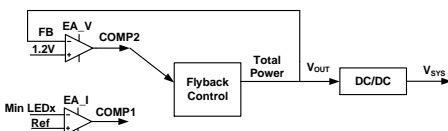

Figure 3: MP4658 Control Scheme when PWM Dimming Is Off
When PWM dimming is off, the LED stage is disabled and the MP4658 regulates the output voltage (V_{OUT}) using the feedback (FB) voltage (V_{FB}) from the FB pin (see Figure 3).